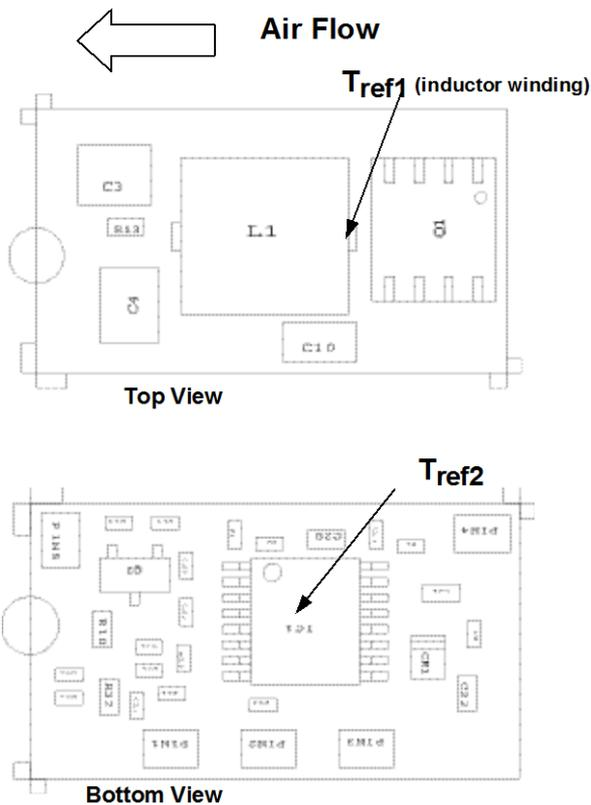
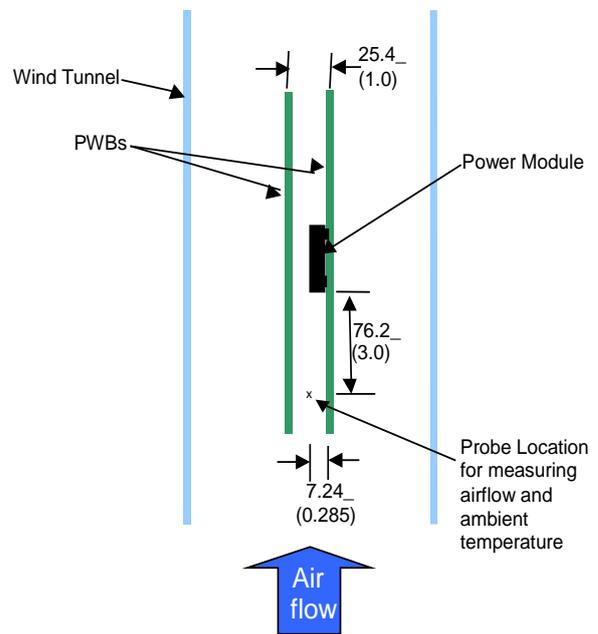

Figure 32. Tref Temperature measurement location.
Figure 33. Thermal Test Set-up.
To provide over temperature protection in a fault condition, the unit relies upon the thermal protection feature of the controller IC. The unit will shutdown if the thermal reference point T_{ref2} , (see Figure 33) exceeds $140^{\circ}C$ (typical), but the thermal shutdown is not intended as a guarantee that the unit will survive temperatures beyond its rating. The module will automatically restarts after it cools down.
Considerations include ambient temperature, airflow, module power dissipation, and the need for increased reliability. A reduction in the operating temperature of the module will result in an increase in reliability. The thermal data presented here is based on physical measurements taken in a wind tunnel. The test set-up is shown in Figure 33. Note that the airflow is parallel to the long axis of the module as shown in figure 32. The derating data applies to airflow in either direction of the module's long axis.
The thermal reference point, T_{ref1} used in the specifications of thermal derating curves is shown in Figure 32. For reliable operation this temperature should not exceed 125°C.